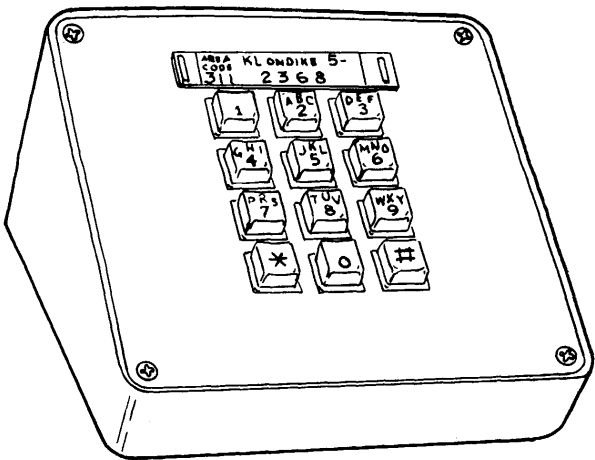
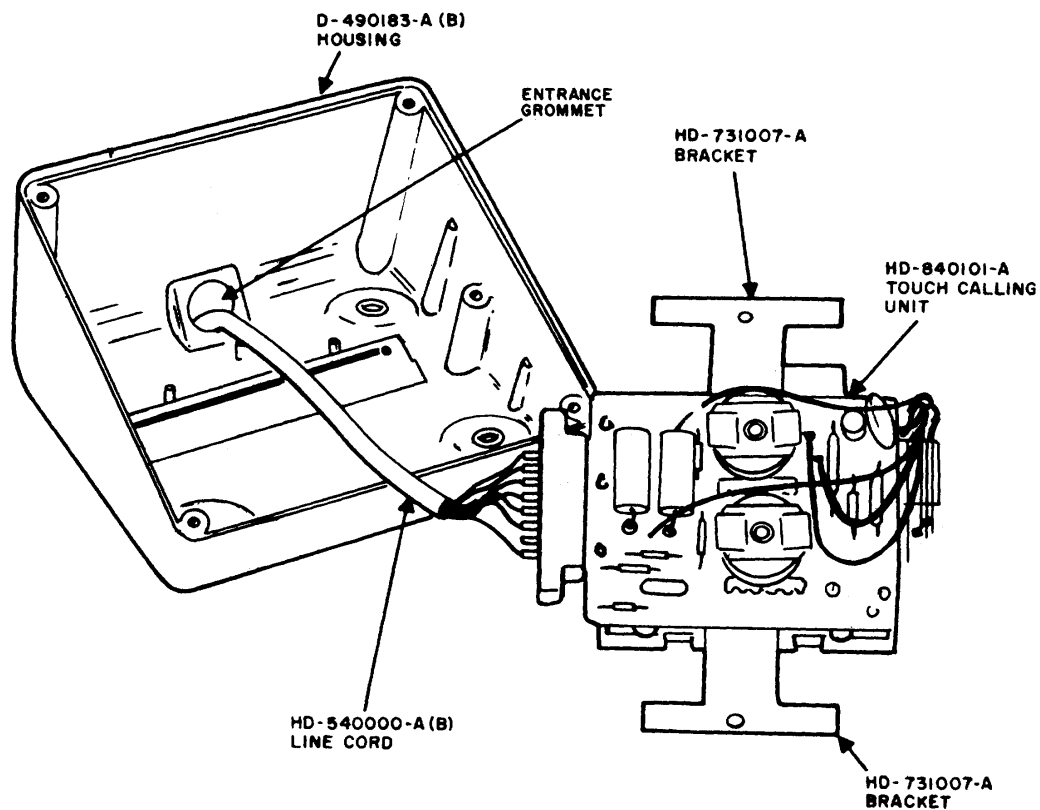

Figure 1.- Auxiliary Touch Calling Adapter in Desk Use.
Figure 2. Auxiliary Touch Calling Adapter with TCU Removed.
2.02 The auxiliary Touch Calling adapter, commonly referred to as a pad (Figure 1), consists of a special 12-key Touch Calling Unit (TCU) arranged for plug connection directly to its printed-circuit oscillator board and mounted in a rectangular housing molded of black or beige styrene. Four circular vinyl feet provide a nonskid base for desk use. In desk use, the brushed aluminum faceplate lies at a 25-degree angle to the horizontal. A desk space 5 inches wide by 5-3/4 inches deep is required for the adapter, which is 3-1/2 inches high. Wall mounting requires four holes or anchors on 3-1/2 inch horizontal and 3-3/16 inch vertical centers to accept No. 10 or No. 12 screws inserted through the center of each foot, which should not be removed. In this case, the TCU must be removed from the housing (Figure 2) and the entrance grommet removed temporarily to secure more cord slack. The TCU can then be reversed, so that the cord connector lies next to the shorter wall on the housing (the top, when wall mounted). The faceplate is symmetrical and may be installed so that the acrylic number card cover lies either above or below the keys, regardless of whether the adapter is used on a desk or is wall mounted. In either case, the connections to the associated telephone set are made by means of a 9-foot 4-1/2 inch length of matching nine-conductor cord, which is termi-